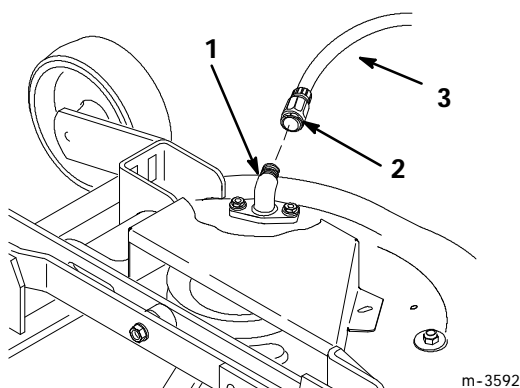

Figure 38
5. Attach a hose coupling to the end of the washout fitting and turn water on high (Fig. 38).